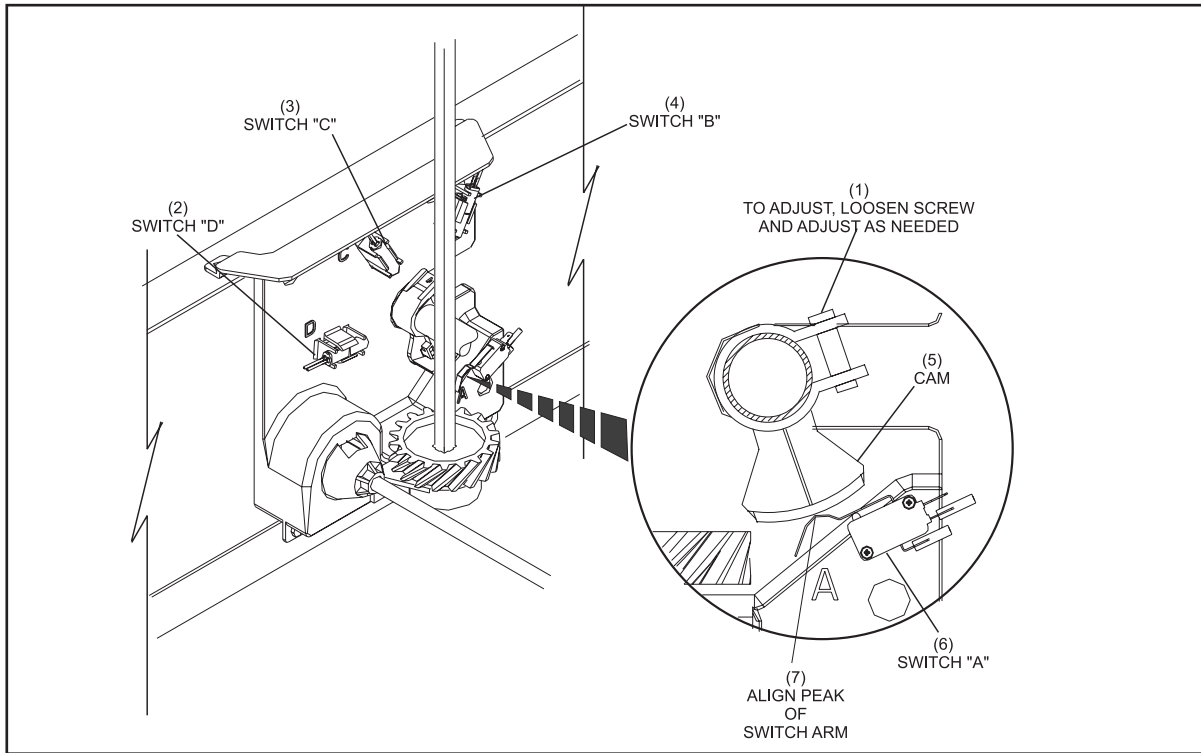

Figure 5-29. Cam Position
2. Loosen the cam and position it so that the middle of the magnet is at the peak of the switch actuator arm. Retighten the cam. Refer to *Figure 5-29*.